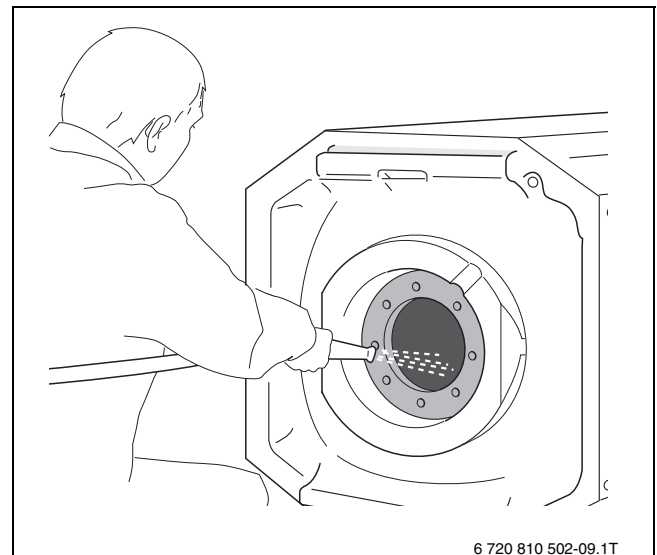

Fig. 17 Hosing down the interior of the DHW tank
- ▶ Hose down the interior of the tank with a "high-pressure" (~ 58...72.5 psi (~ 4...5 bar)) jet of cold water (→ Fig. 17).